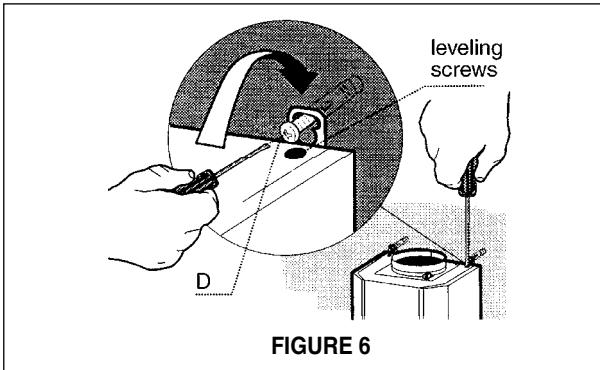

FIGURE 6
3. Before mounting the CANOPY SECTION, tighten the two leveling screws located near the CANOPY SECTION mounting points as indicated in **FIGURE 6**.
4. Hook the body on to the MOUNTING SCREWS (**D** in **FIGURE 6**) and fully tighten the MOUNTING SCREWS.